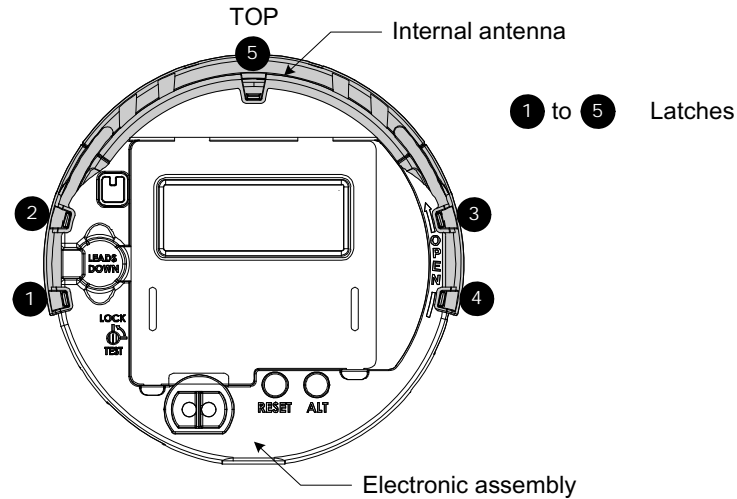

Figure 1
5. Unlatch latches ❶, ❷, ❸, and ❹ (see Figure 1) and gently pry open both sides of the antenna about ½ inch.
7. With a small flat blade screwdriver, gently pry up and disengage the latch ❺ (see Figure 1).